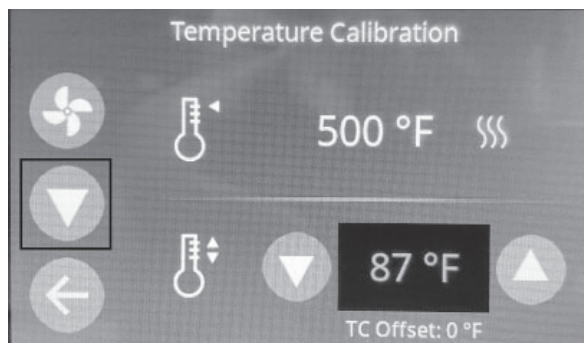

Figure 37
11. Conveyor Belt Calibration - From the temperature calibration screen press the "▼" button as highlighted below in (Figure 37).